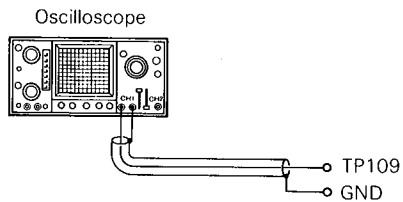
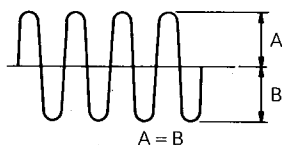

Fig. 21
Fig. 22
- (1) Connect the oscilloscope to TP109 and GND. (Fig. 21)
- (2) Insert the disc and place the unit in the Test Mode 3.
- (3) Adjust VR101 so that the amplitude above and below the zero DC line becomes equal. (Amplitude A = amplitude B) (Fig. 22)